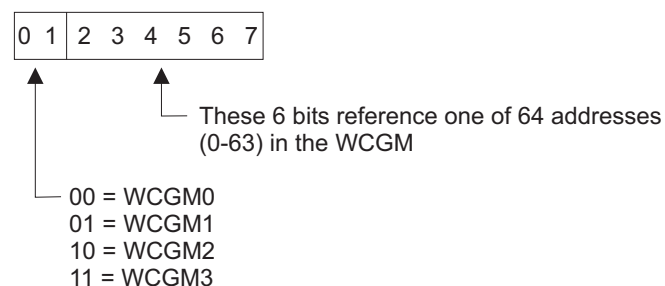

Figure 31. Character Arrangement Table Module Structure
- Bits 0 and 1 of each translation table byte refer to one of four WCGMs and bits 2 through 7 point to one of 64 addresses (0-63) within the WCGM. If SETPRT loads a character set into a WCGM other than the WCGM called for, SETPRT, using a copy of the translation table, alters bits 0 and 1 of each non-X'FF' byte of the translation table to correspond with the WCGM loaded. Figure 31 describes the structure of the character arrangement table module.